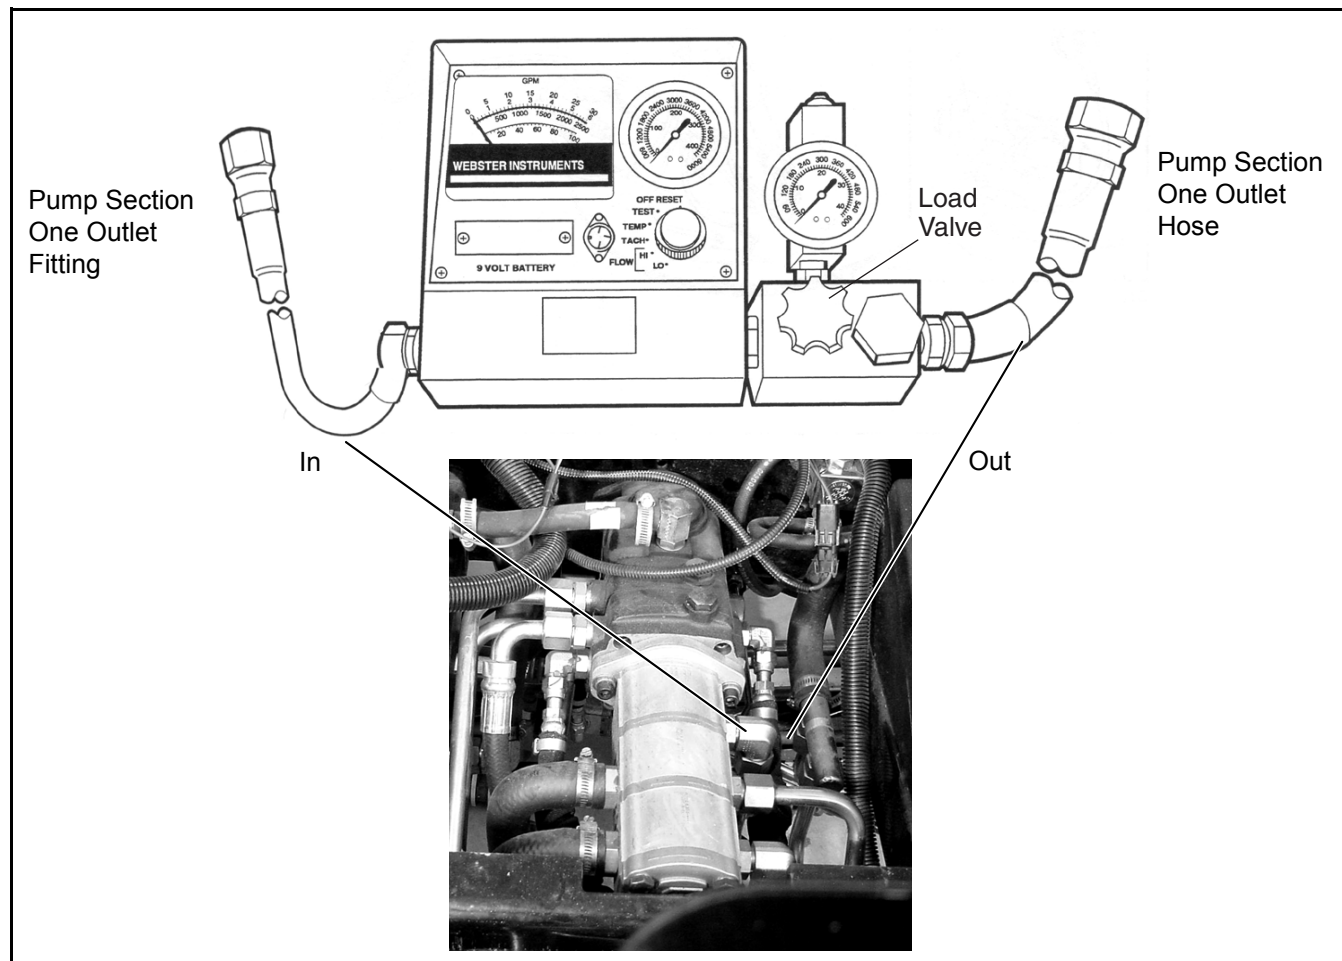

Figure 8O-9. Front Reel Pump Test
2. Connect the flow meter to the reel (auxiliary) hydraulic pump section two. Connect the flow meter IN port to the section two-pressure fitting and the flow meter OUT port to the section two pressure hose (Figure 8O-10).